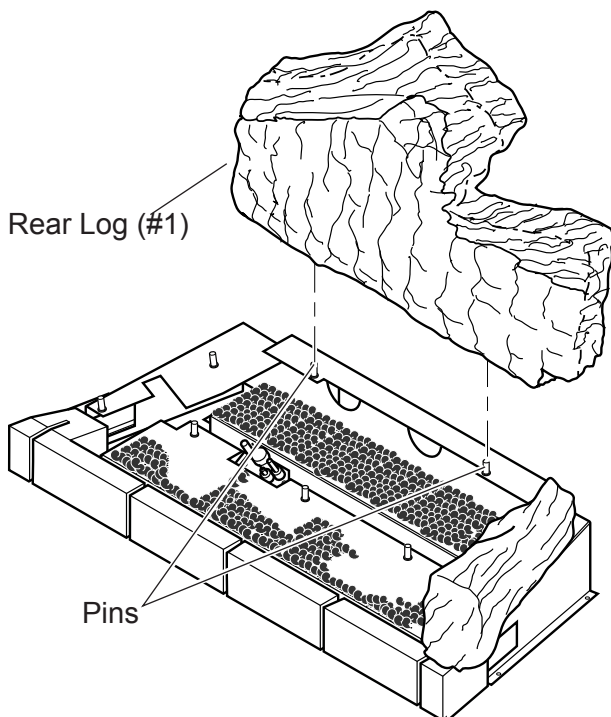

Figure 49 - Installing Rear Log (#1)
5. Place rear log (#1) on two pins against back side of firebox. *See Figure 49.*